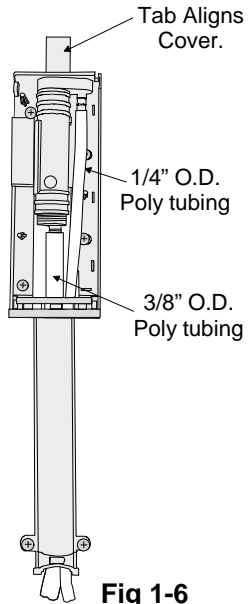

Fig 1-6
6. Connect 1/4-inch OD poly tubing from an RO unit to the AG110-003 inlet port. Connect 3/8-inch OD poly tubing to the outlet port and insert the other end into a drain pipe through a drain pipe adapter. (See FIG 1-6)